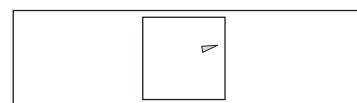

Figure 2.
2. Center the copper tree on a microscope slide and place the cover slip over it (see Figure 2).